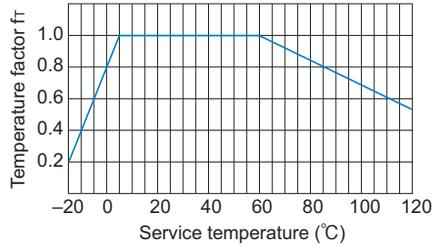

Fig.2 Temperature Factor
If the temperature of the lead screw nut exceeds the normal temperature range, the seizure resistance of the nut and the strength of the material will decrease. Therefore, it is necessary to multiply the dynamic permissible torque (T) and the dynamic permissible thrust (F) by the corresponding temperature factor indicated in Fig.2. Accordingly, when selecting a lead screw nut, the following equations need to be met in terms of its strength.
- $f_T$  : Temperature factor (see Fig.2)
- F : Dynamic permissible thrust (N)
- $P_F$  : Axial load (N)